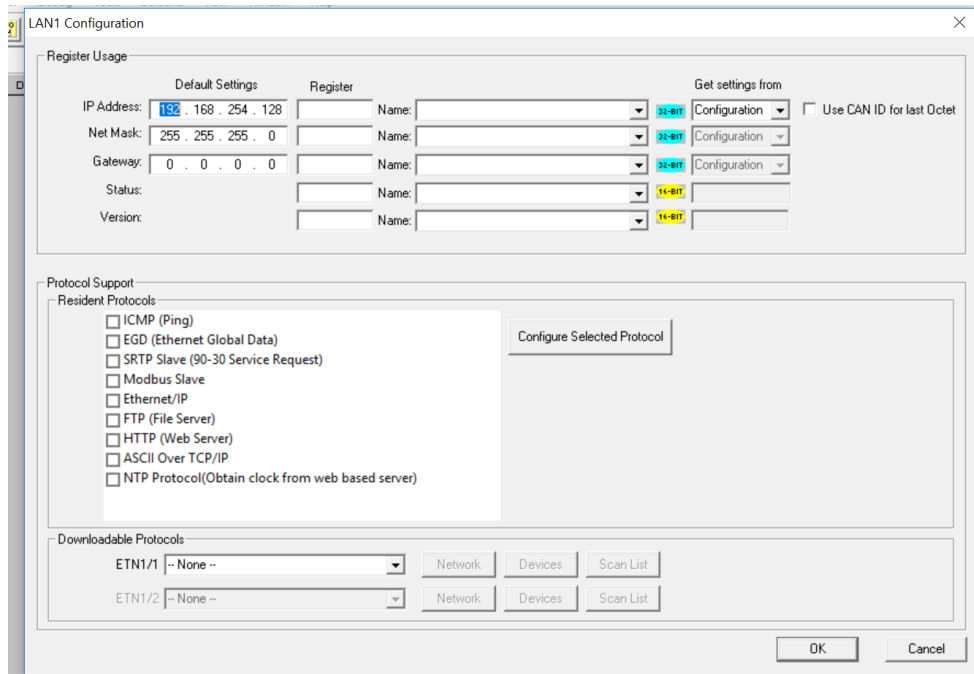

Figure 7.2 - LAN1 (Ethernet) Module Configuration
3. Click the **Config** button to the right of LAN1, revealing the Ethernet Module Configuration dialog as shown in Figure 7.2